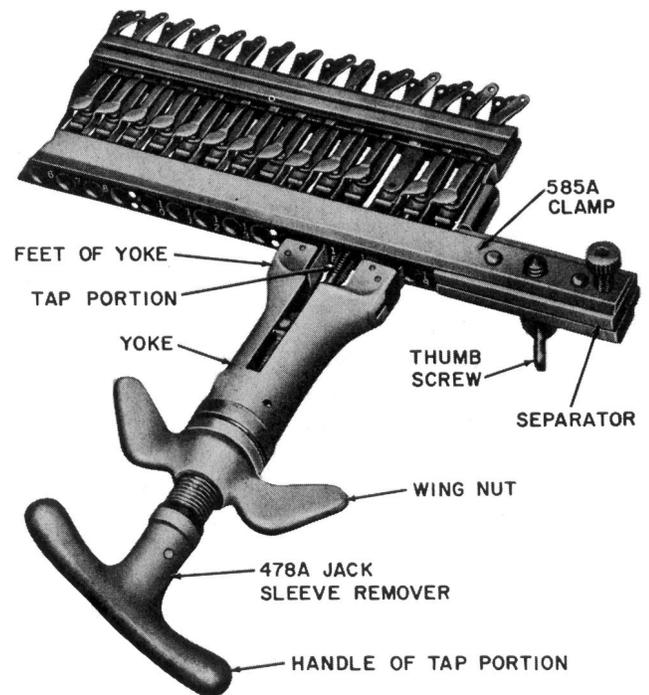

Fig. 7—Method of Extracting Sleeve With 478A Jack Sleeve Remover (92-Type Jack Shown)
3.08 On 92- and 292-Type Jacks: Hold the jack strip in a horizontal position and place it into the 585A clamp so the bars at both ends of the clamp are flush with the face of the strip and the beveled surfaces of the clamp are toward the front of the strip as illustrated in Fig. 7. The 585A clamp cannot be used on jack mountings associated with 229-type jacks. In this case, the
3.10 Slowly and steadily turn the tap portion of the 478A tool about 2-1/2 full turns into the sleeve until there is considerable resistance to the turning. Avoid excess turning of the tool to prevent damage to the face strip. Hold the jack strip and yoke portion of the 478A tool with one hand so the feet of the yoke are in line with the jack strip and turn the wing nut of the 478A tool in a clockwise direction until the feet of the yoke come in contact with the face of the jack strip. Continue turning the wing nut until the sleeve is drawn forward and can be pulled out of the mounting. See Fig. 7.
3.16 Slowly and steadily turn the tap portion of the 478A tool about 2-1/2 full turns into the sleeve until there is considerable resistance to the turning. Avoid excess turning of the tool to prevent damage to the face strip. Hold the jack strip and yoke portion of the 478A tool with one hand so the feet of the yoke are in line with the jack strip and turn the wing nut of the 478A tool in a clockwise direction until the feet of the yoke come in contact with the face of the jack strip. Continue turning the wing nut until the sleeve is drawn forward and can be pulled out of the mounting. See Fig. 7.